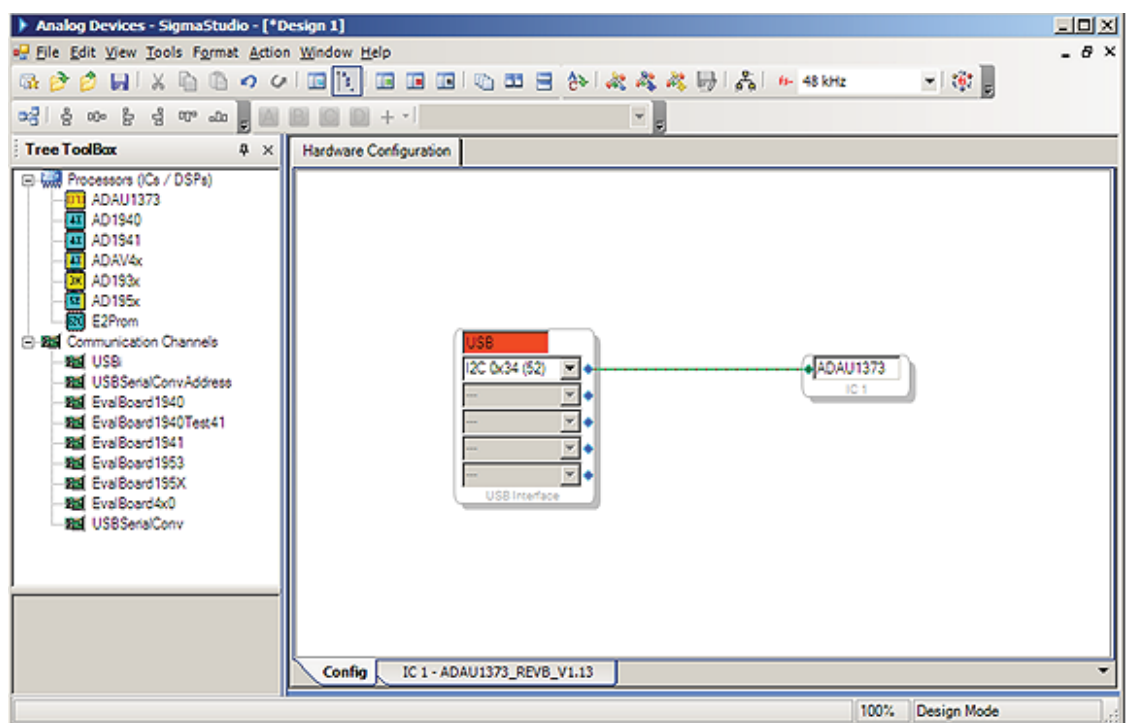

Figure 1. Hardware Configuration Tab—USBi Connection
3. Connect the USBi cell to the ADAU1373 cell by clicking and dragging from the top blue output pin of the USBi cell to the green input pin of the ADAU1373 cell. The window should now resemble Figure 1.